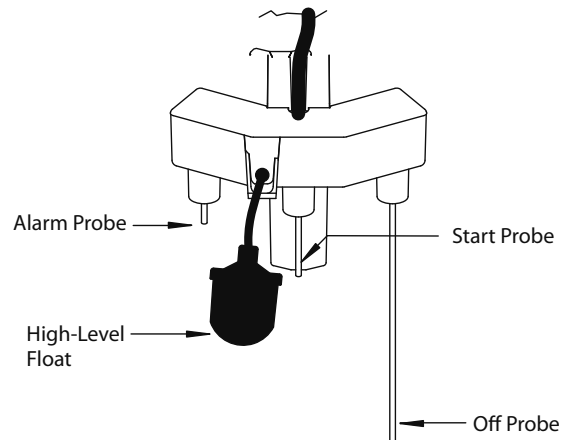
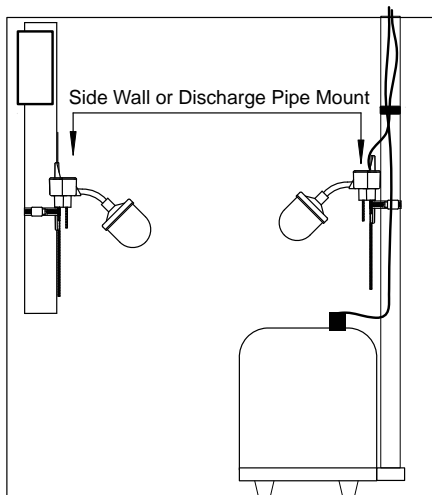

FIGURE 5
FIGURE 4
6. Attach the sensor holder to the discharge pipe (or a separate pipe mounted to the side wall) using the stainless steel pipe clamp (Figure 4). Make sure the sensor is clear of inlet water and at least 1" to 2" away from any conductive material. To ensure that the pump remains submerged, make sure the OFF probe is at the same height as the top of the pump or just slightly below (Figure 5).
1. Enlever le capuchon du raccord d'entrée (Figure 4).